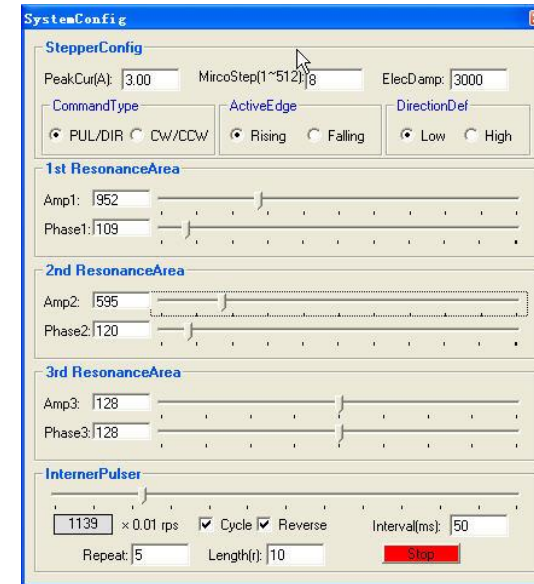

Figure 26: Anti-resonance tuning
**Step 1:** Start the motion test by clicking **Start/Stop** button. Find a resonance speed by slightly moving the slider bar of internal pulse generator back and forth. See Figure 26.